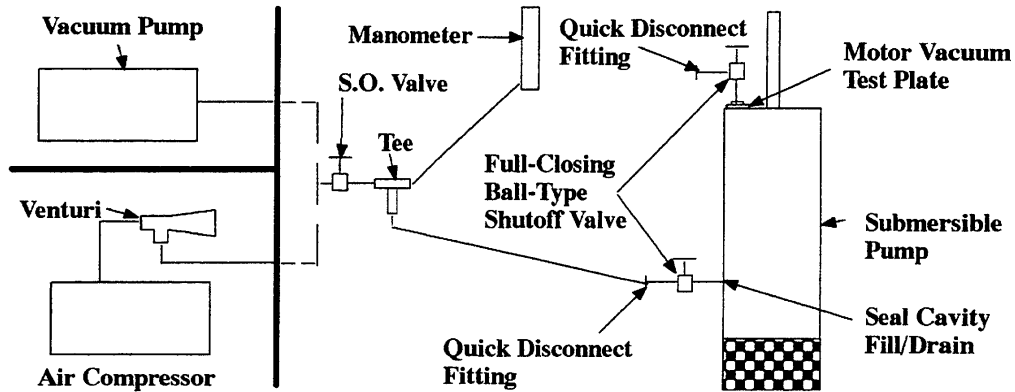

Figure C-5. Vacuum Test System
It is recommended that a vacuum pump be used to draw the vacuum on the cavities. If a vacuum pump is not available, a compressor/venturi system may be used, see Figure C-5.
See Figure C-5 and connect the vacuum pump or compressor/venturi system directly to the pump at the hole for the seal cavity drain plug (47).
Connect the vacuum pump or compressor/venturi system to the pump as shown in Figure C-5.